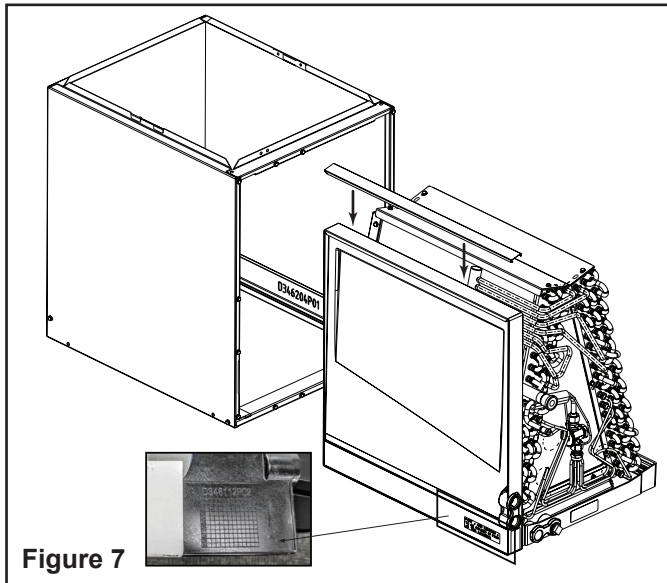

Figure 7
- Slide Horizontal Drain Pan and coil assembly into cabinet. Refer to Step 4 and Figure 7 below.
To prevent damage to pan, ensure metal heat shield is assembled to the secondary drain pan. See Figure 7.
- If supplied with kit, ensure Heat Shield is installed on Horizontal Drain Pan. Slide the new Horizontal Drain Pan onto the coil and slide back into the coil cabinet. See Figure 7.
NOTE: Heat Shield only required for Horizontal Drain Pans having part numbers D346112P01 through P04. Refer to part number embossed on rear of pan. See Figure 7.